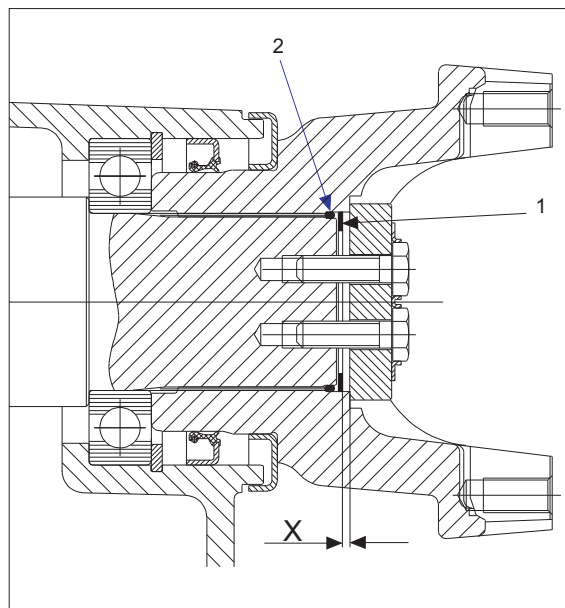

Figure 289
(figure 289~292) :
- (3) Place the O-ring (arrow) into the space between output flange and shaft (see also figure 289) and put on the shim.
(2) Install the output flange until contact.
- ※ Setting of the gap size as well as fixing of the output flange is identical with the installation of the output flange at the transmission rearside, see figure 289~294.